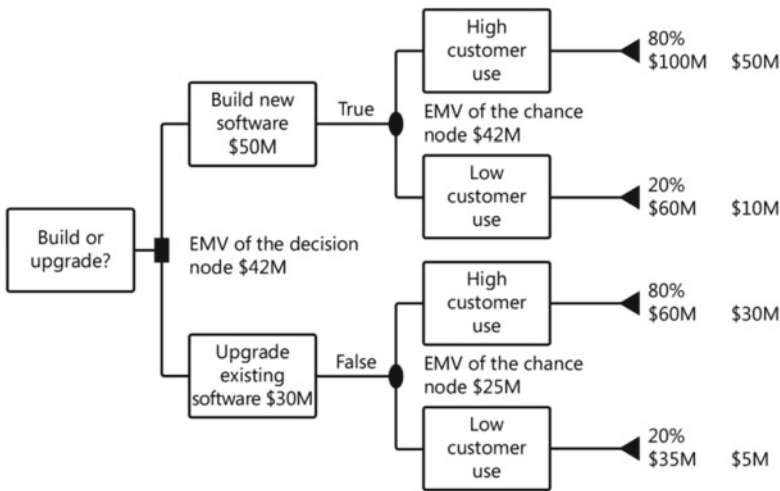

Figure 9-8. A decision tree analysis for assessing the expected monetary value of building new software or upgrading existing software
- Expected monetary value analysis (EMV):* A way to allocate quantitative numerical probability and impact to particular options and from this to arrive at the expected monetary value of each option. Depending on the calculated outcome, you can then quantify your decision. The usual way of graphically representing the EMV analysis is with the use of decision trees. In Figure 9-8, a decision tree shows the calculation of EMV regarding whether to upgrade existing customer ordering software or to develop a completely new piece of software.
Figure 9-8 shows that for either decision, there is an 80% chance of high customer use and a 20% chance of low customer use. If you decide to build new software, it will cost \$50 million, and if there is high customer use, you will make \$100 million, so there is an 80% chance of making a net figure of \$50 million. By the same token, if you decide to build new software at a cost of \$50 million, and there is low customer use, you will only make \$60 million, so there is a 20% chance of making a net figure of \$10 million. You then add these two calculations together